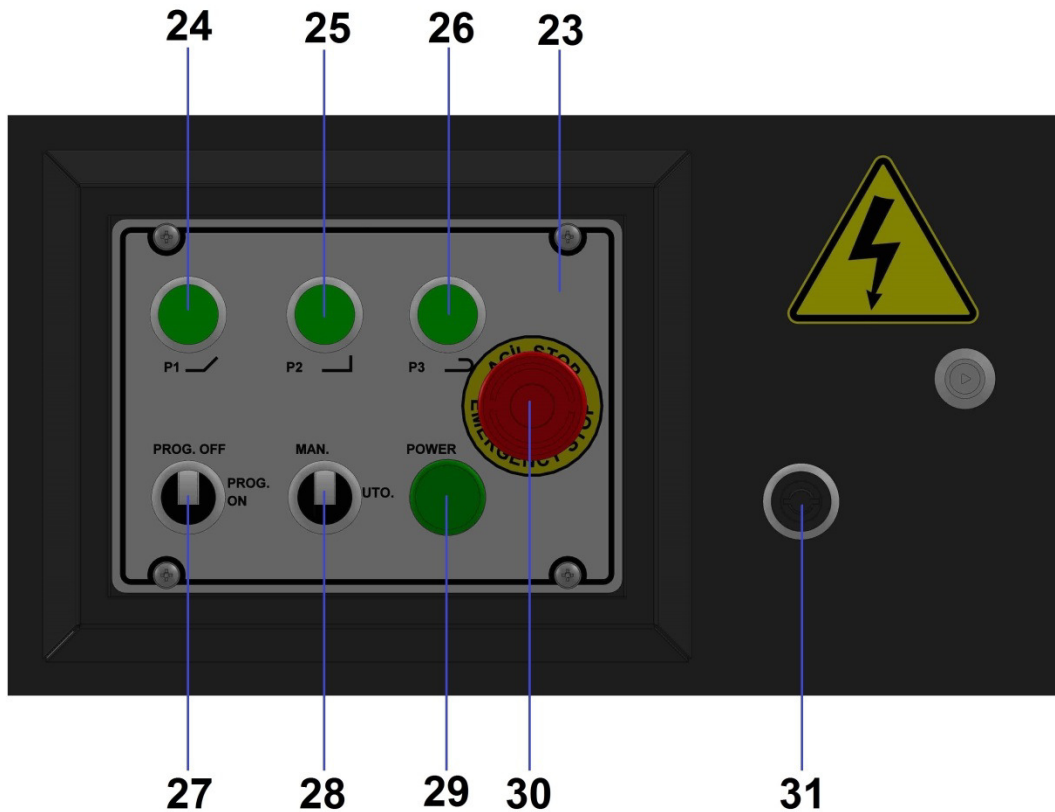

Figure 5 Manual control buttons
- Press the compatible button choosing the desired bending type from the buttons on the machine's control panel (Figure: 5 No: 24, 25, 26).
- Set the machine's operation rpm with the help of potentiometer (Figure: 5 No: 31). As the rpm decreases bending flange rotation speed will slow down and machine power will increase. As the rpm increases bending flange speed will be faster and machine power will decrease.
- When making stirrup bending you can set max. 9 operations at once by switching the PROG. ON-OFF switch (Figure: 5 No: 27) "ON" position and you can use it at once according to the order you have set.
- After your settings are completed you can start serial bending by switching the MAN-AUTO switch (Figure:5 No:28) to AUTO position.
- You can stop the machine in emergency cases by pressing the emergency stop (Figure: 5 No: 30) button on the control panel. When you restart, the machine will return to the beginning of the operation where it had stopped.